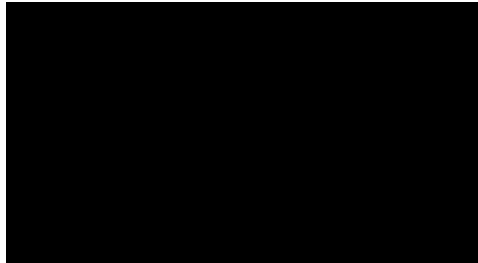

Figure 31 Practice Alphanumeric Commands, Box, and Line in Normal Resolution
7. To put a horizontal line under "IGP," use another Justification (J) and Horizontal Tab (T) sequence to position the line 2.3 inches (*jus*) down which is 0.3 inches under the name. Tab the line to 1.0 inches (*dis*) from the left margin which begins the line just inside the left edge of the box. Use a Solid Line (LS) command to create a line 3.0 inches long horizontally (*horz*) and 2 dots wide vertically (*vert*). Add this data to the file before the sequence terminator. The printed result is shown in Figure 31.